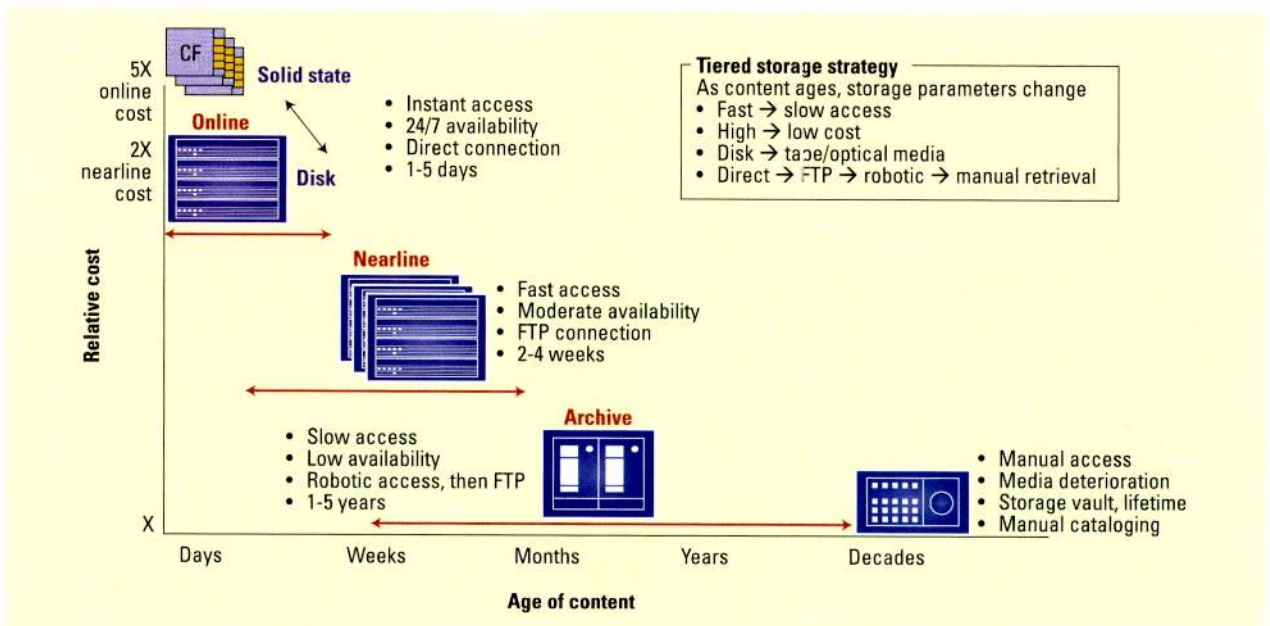

Figure 1. Tiered storage strategy
Within the enterprise drive market, several major trends are driving the use of certain types of physical storage. (See Figure 1.) The enterprise market is currently moving from Fibre Channel (FC) drives to serial attached SCSI (SAS) drives just as the PC market recently moved from parallel connections to serial SATA drives. Driving this migration was the obvious cabling advantages of a serial attachment. Serial clock speeds can be higher than parallel connections. And, SAS provides a direct point-to-point bus connection versus a shared bus connection used with FC SCSI. This means stored material can be accessed much faster. For editors and content producers, this means higher productivity.